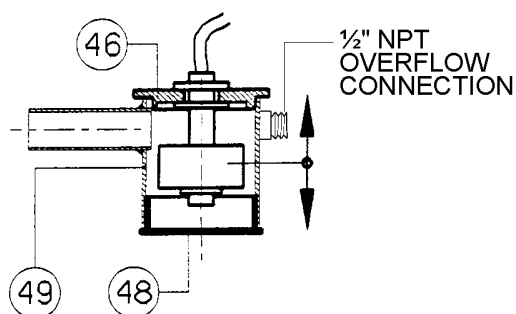

Figure 4.8 - Tubular Element Leak Detector
4.4 Tubular Element Leak Detector (See Figure 4.8)